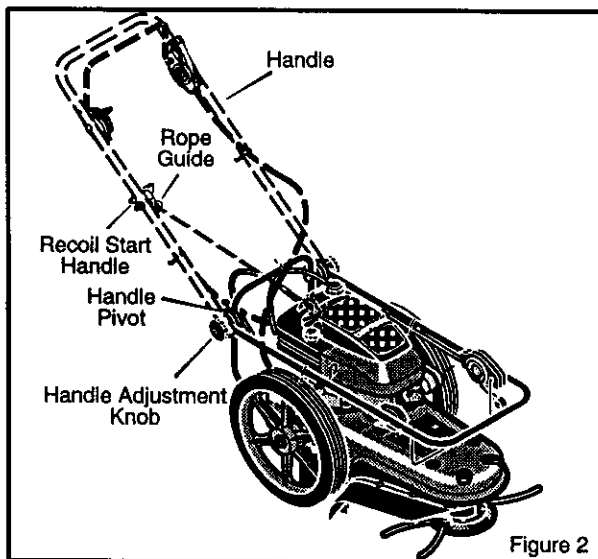

Figure 2
1. Hold the handle with one hand and loosen both handle adjustment knobs until the ratchet teeth are disengaged. Do not remove the handle adjustment knobs. See Figure 2.